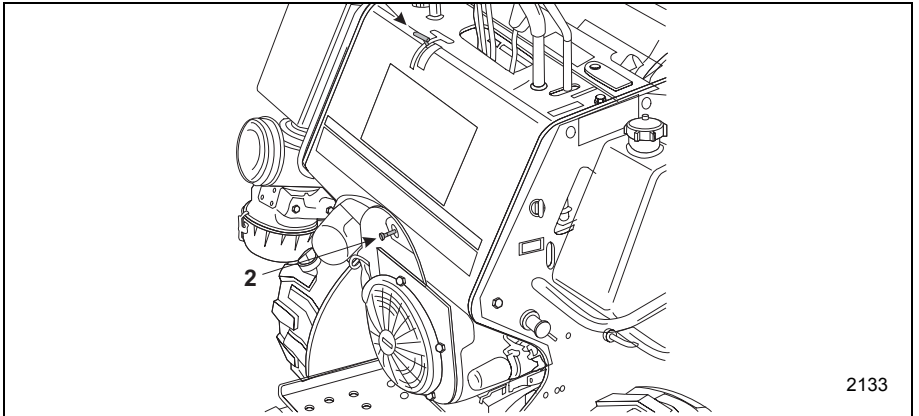

Figure 3-8 Throttle and Choke Settings
2. Pull the engine CHOKE knob (Item 2, Figure 3-8) fully outwards.
3. Move the throttle lever (Item 1, Figure 3-8) to about half way between fast and idle engine speeds.